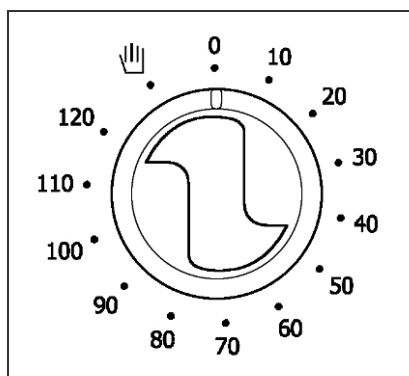

Fig. 9
(Fig. 9)
**Traditional cooking** - Turn on the appliance. Turn the selector knobs (Fig. 10) to symbol  and by the thermostat (Fig. 9) to the required temperature. If you want a different temperature at the top or bottom, turn the selector knob in line with the symbol  or .